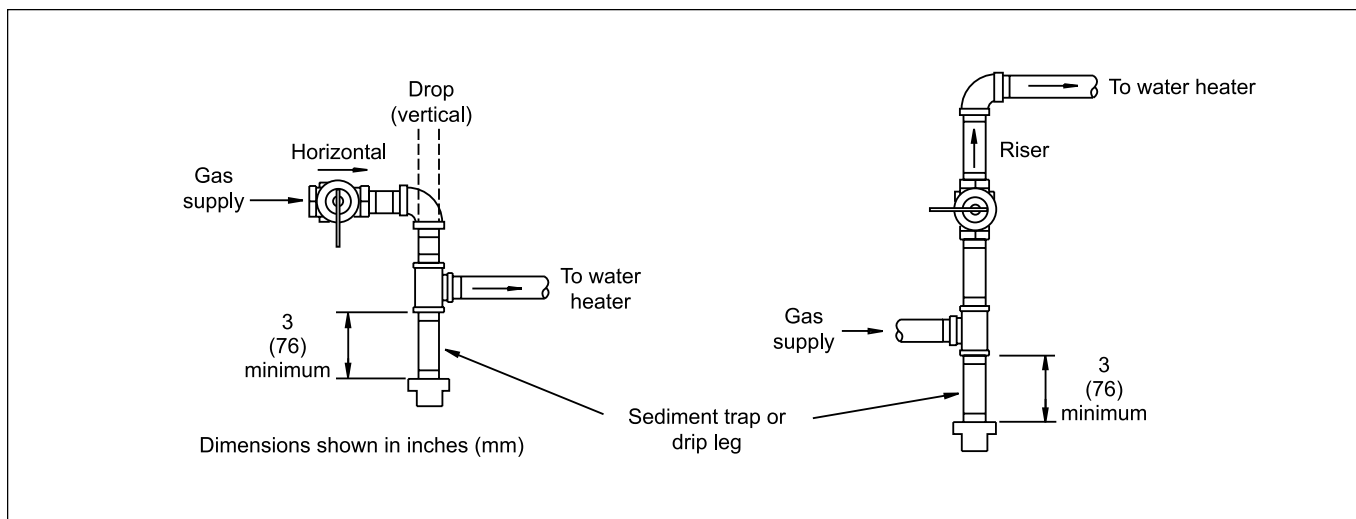

Figure 5. Gas Supply Piping.
- A sediment trap (drip leg) must be provided ahead of the gas controls (see Figure 5). A manual gas shutoff valve must also be provided for service, convenience and safety. This should be installed about 5 feet (1.5 m) above the floor. Check the local codes.